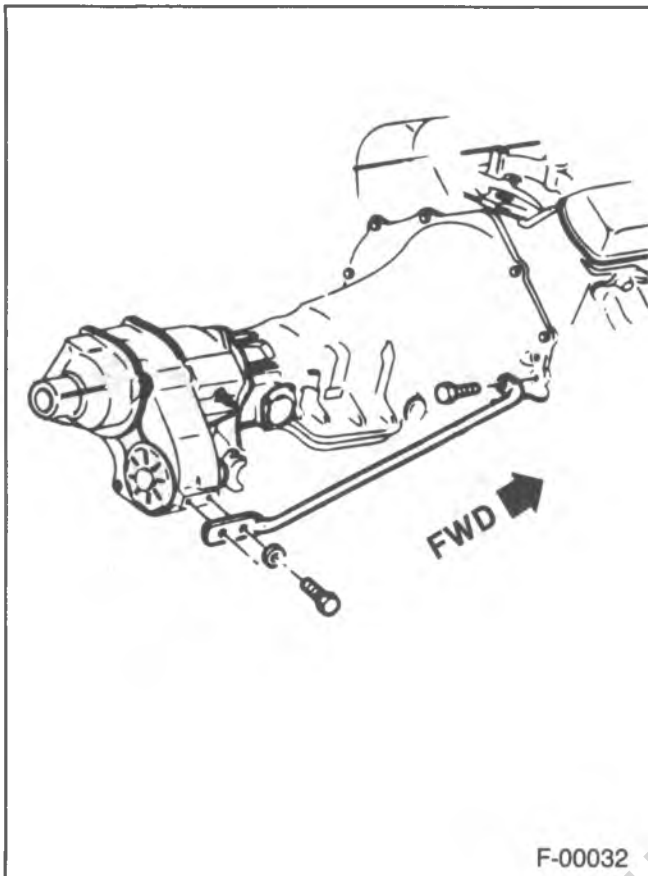

Figure 5—Strut Rod Support—Automatic Transmission
6. Engine strut rod on automatic transmission models (figure 5).
→ Install or Connect (Figures 5, 6 and 7)
9. Strut rod support to the transfer case on automatic transmissions (figure 5).